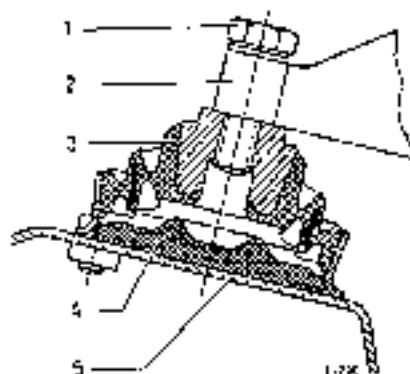

Fig. 22-1/3
In order to prevent the engine from sinking too heavily into the front rubber mountings (3), the buffer plate (4) Part No. 621 223 00 65 is added between the rubber mounting (3) and the front axle support (5) in the case of Models 180 a, 180 b, 180 D, 180 Db, 19U, 190 b, 190 S, 190 D, 190 Db, 220 S, and 220 SE and on Model 219 with hydraulic automatic clutch (Fig. 22-1/3).